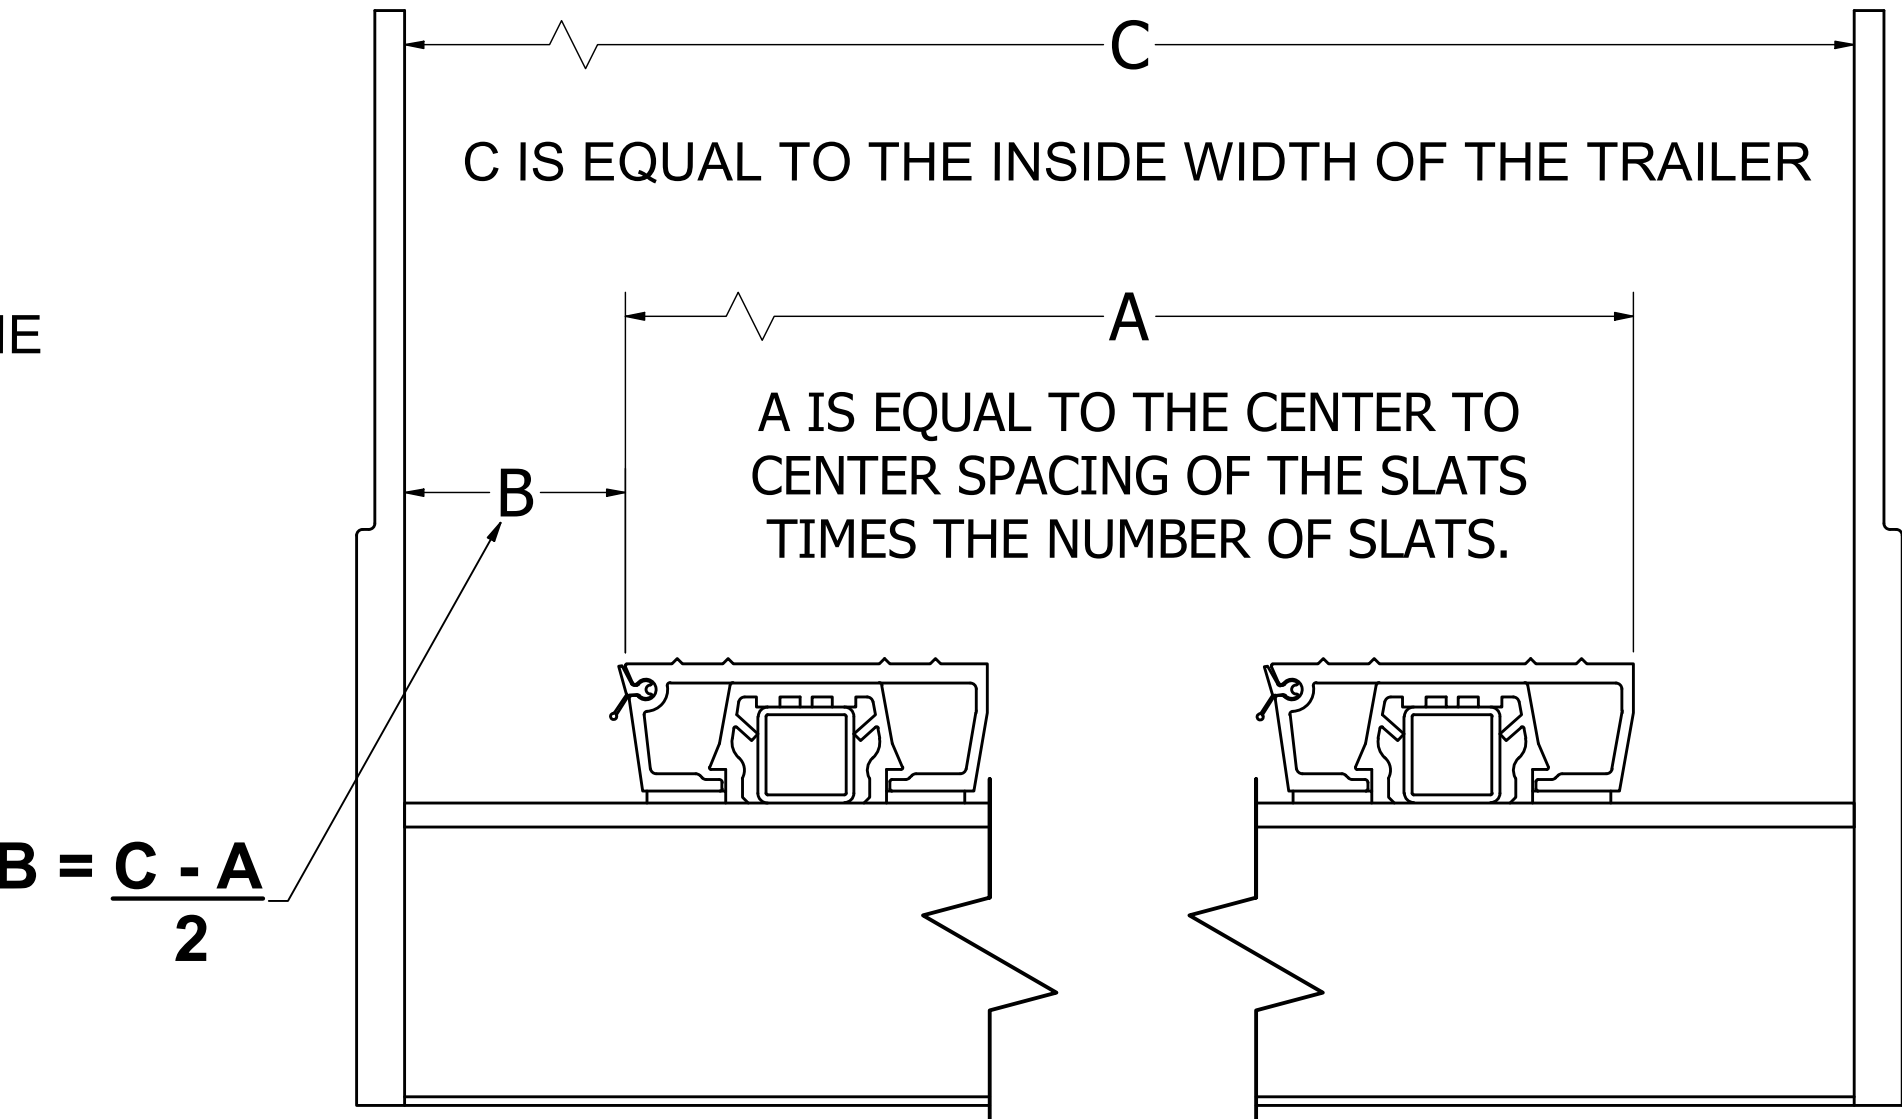

FIGURE 6: SIDE SEAL SIZING
- 1. USE FIGURE 6 TO DETERMINE SIDE SEAL DIMENSIONS. SIDE SEAL GAP WIDTH ('B') IS THE DISTANCE MEASURED FROM THE OUTERMOST FLOOR SLAT TO THE SIDE WALL.